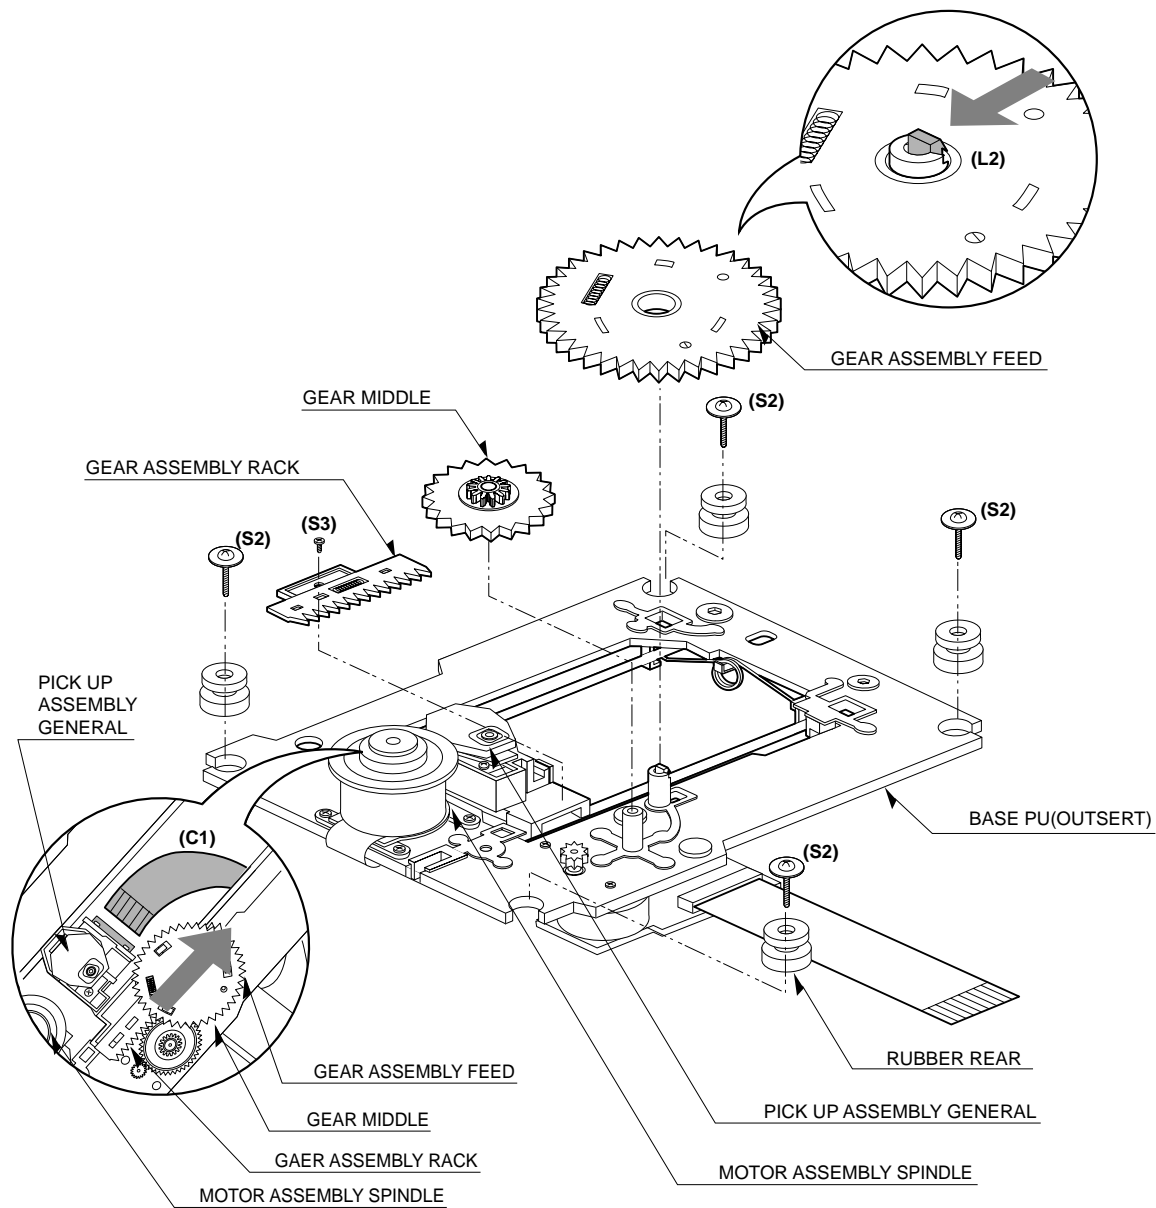

Fig. 4-3
3. Base Assembly Sled (Fig. 4-3)
4. Rubber Rear (Fig. 4-3)